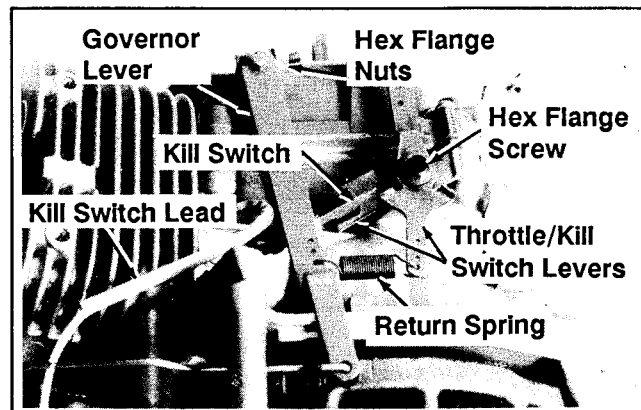

Figure 9-12. Removing Governor, Throttle, And Kill Switch Linkages
1. See Figure 9-12. Loosen hex. flange nut on governor lever and remove lever from governor shaft. Disconnect return spring from the governor lever.